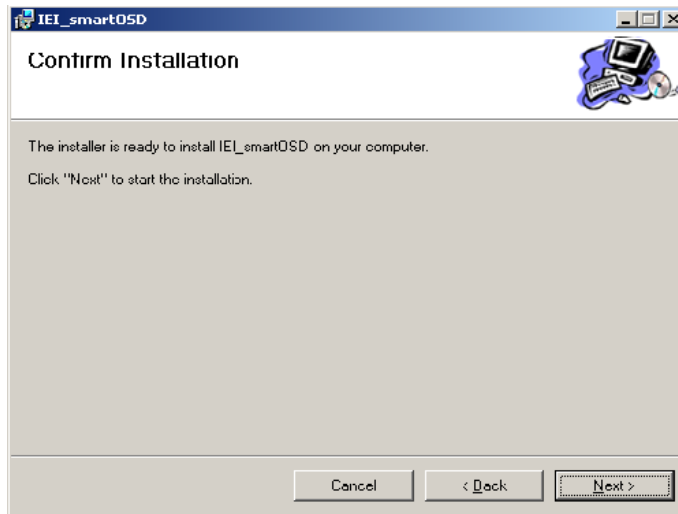

Figure C-3: smartOSD Confirm Installation
Step 8: The screen in **Figure C-3** appears.